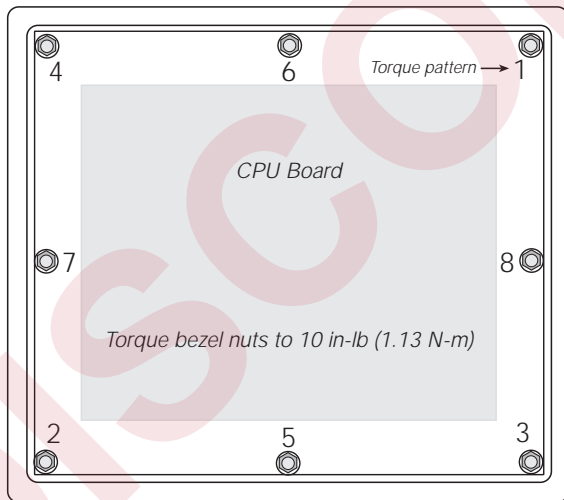

Figure 1. Torque Pattern for Bezel Nuts
5. Inside the enclosure, remove the eight retaining nuts that hold the bezel to the front of the indicator (see Figure 1). Remove the standard bezel.
8. Torque retaining nuts to 10 in-lb (1.13 N-m) using the pattern shown in Figure 1. Make a second pass to verify torque values.